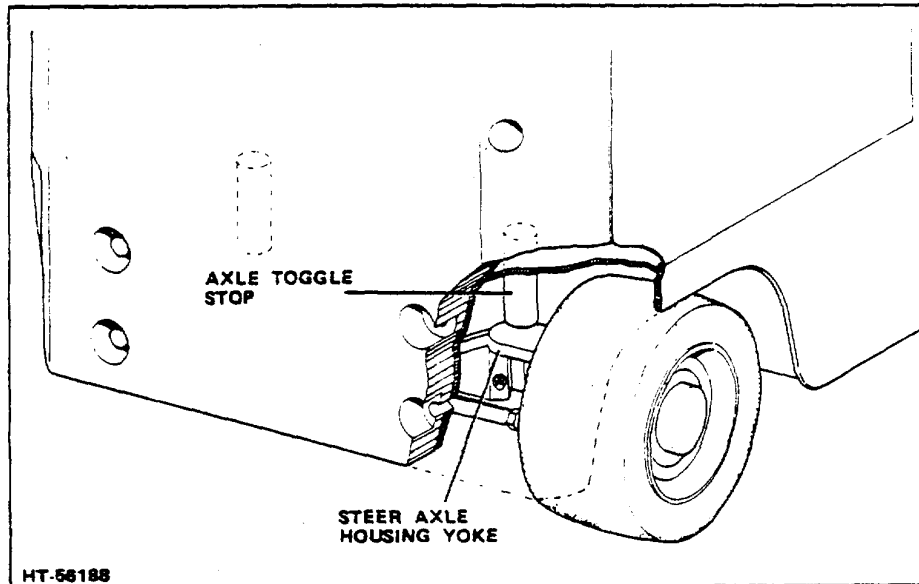

Figure 4-1. Location of Steer Axle Toggle Stops
- j. Check the axle toggle stops that are welded to the frame (underside of the battery deck) and are located directly above the top of the steer axle housing yokes (Fig. 4-1).